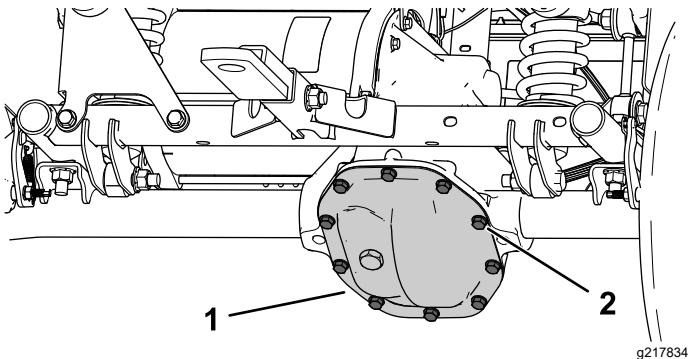

Figure 55
3. Remove the bolts from the transaxle cover and drain the fluid completely (Figure 55).
1. Align a drain pan under the transaxle cover (Figure 55).